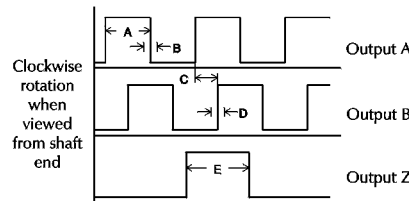

Figure 2
**Output Waveshape:** (See Figure 2; does not apply to dual/triple output models)